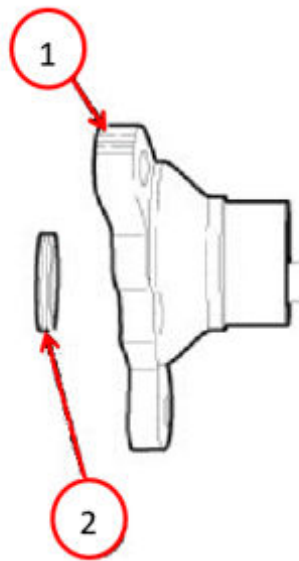

Fig. 53
81. For 2WD vehicles, remove old seal from the output flange and replace with new output flange O-ring Fig. 53.